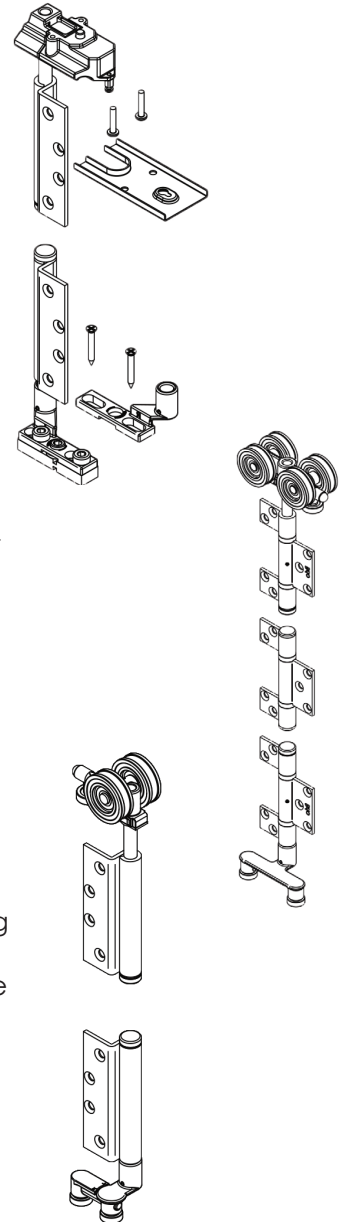

FIG 7: Support Bottom of Panels During Install
Adjustable Pivot Set: The head jamb and sill will already have the ADJUSTABLE PIVOT SET (1) hardware installed in the frame. Pivot Hinges are located at the jamb legs. The first panel is always attached to the Pivot hinge to anchor the following doors. Angle the panel to the fully open position and support the bottom front edge of panel **FIG 7**. Find the predrilled holes along the back edge of the panel and attach the panel to the top and bottom pivot hinges. For panels over 8'0 tall, there is a jamb pivot hinge (middle hinge) for extra support.
Intermediate Hanger Set with guide: The INTERMEDIATE HANGER SET (4) will be free-floating in the upper track in the head jamb. Guide rollers located on the bottom of panel are protected by wood caps that must be removed. Place the guide rollers into the bottom channel in the fully open position. Support the bottom front edge of panel **FIG 7**. Find the predrilled holes along the leading edge of panel and attach the intermediate hinges. Find the predrilled holes along the back edge of the panel and attach either the Offset Hinge Set with hinge handle (7) or the Hinge Set with hinge handle (3). Either of these will already be attached to the panels.